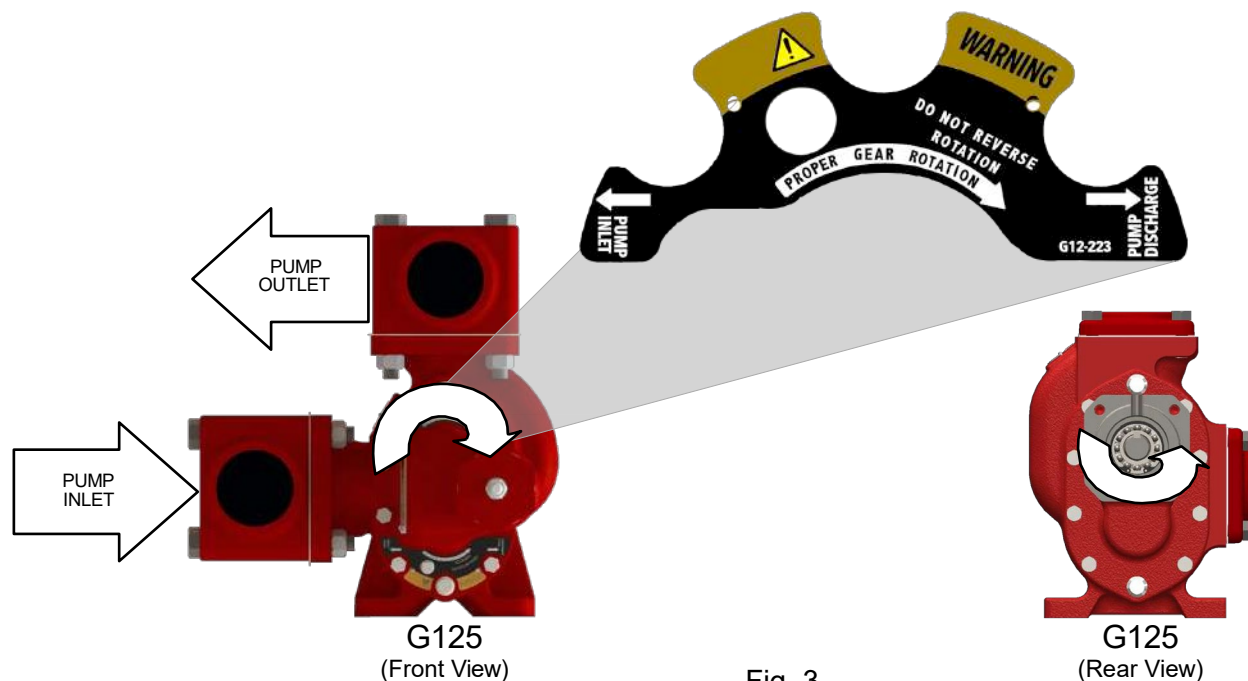

Fig. 3
- Hydraulic motor orientation must be checked prior to operation to ensure the correct pump rotation for the internal relief valve. (Fig. 1 & Fig. 3)